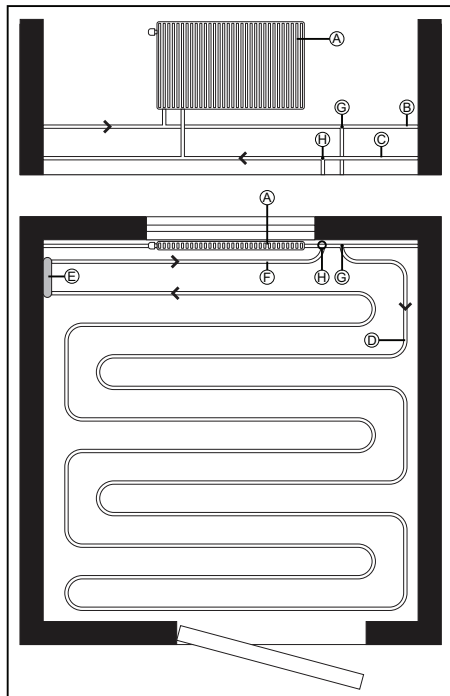

Figure 4. Outline diagram for piping.
- As there can be a great difference in temperature between the beginning and end of the floor heating circuit, the floor heating pipes should be mounted in a so-called “double coil” with a c/c distance of 150 mm. In order to facilitate the laying of the floor heating coil, a diagram of the coil and the room should be made in according with the example in “Figure 4” (please observe the direction of flow specified by the arrows).
- Then attach the pipe with the coupling on to the mini loop valve's return (8). Tighten securely with a spanner.
- Lay the pipe the shortest route to the previously determined connection point for the radiator circuit's return (see "Figure 4", Item (F)). Cut the pipe with sufficient allowance for cutting for the connection to the existing heating system; the connection should be carried out by a specialist. The pipe should be cut with pipe cutters or a carpet knife. Please note that the cut should be at right angles and the cut surface should be clean and level.
- Then attach the pipe with the coupling on to the mini loop valve's supply (5). Tighten securely with a spanner.
Tramp down the pipe in the clip rail and lay the loop in a so-called "double coil" in accordance with the outline diagram ("Figure 4"). When the installation is complete, the c/c distance between the pipes should be 150 mm.
When the entire floor areas is covered with floor heating pipes (max 35 m of piping), the pipe should be cut with sufficient allowance for cutting for connecting to the existing heating system (see "Figure 4", Item (G)). The connection should be carried out by a specialist